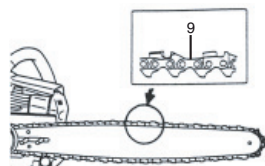

Fig. 4
4. Confirm the direction of saw chain (9) is correct as in the figure, and align the chain on the sprocket. (Fig. 4)